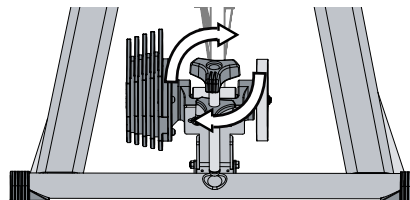

Figure 4
- If the roller needs adjusting horizontally (left or right) to centre the tyre onto the roller to within 10mm (3/8 inch), there are two bolts located under the resistance unit that can be loosened with a 6mm hex key to allow side to side adjustment. See figure 4.